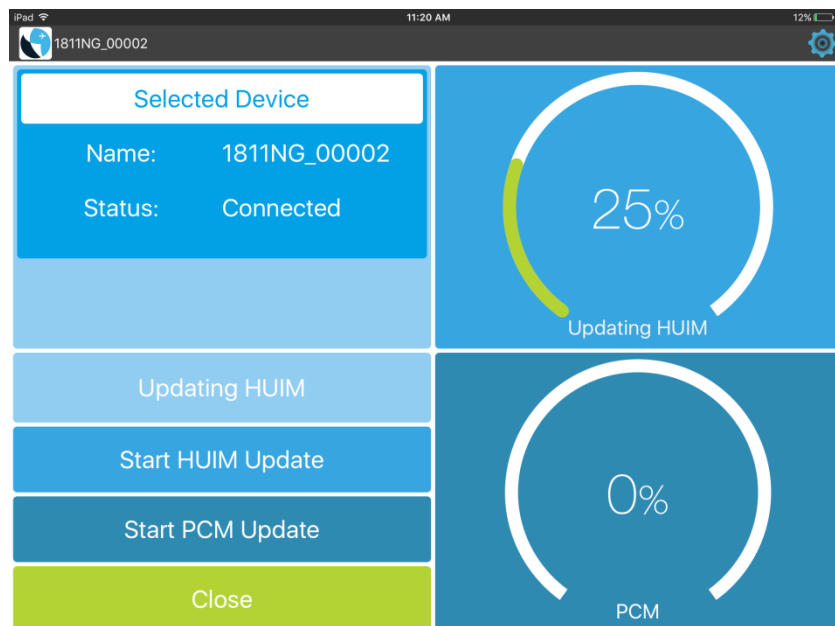

Figure E. 16 HUIM Update Progress Screen
c) Touch the “Start HUIM Update” panel. The update will take about a minute (Fig. E. 16).